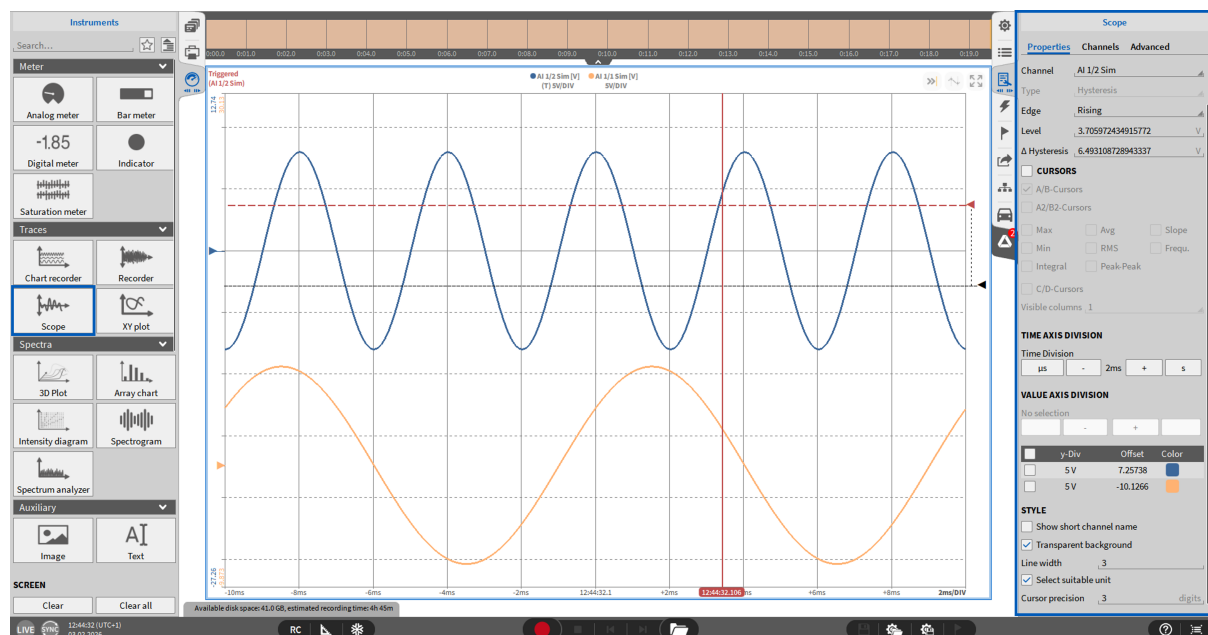
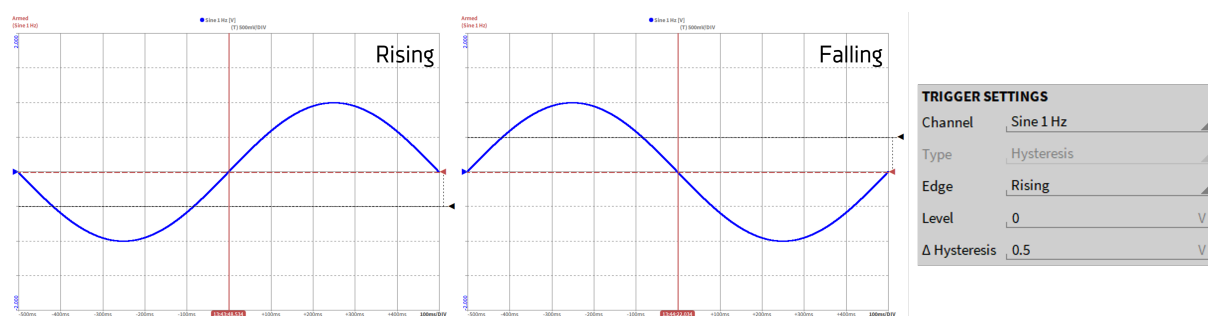

Fig. 8.38: Scope instrument – overview
Fig. 8.39: Trigger on a *Rising* (left) and on a *Falling* (right) edge
- In the *Edge* selection, the user can select if the selected signal shall be triggered on a *Rising* or on a *Falling* edge. The difference between the two modes is shown in Fig. 8.39 for a 1 Hz sine wave that has an amplitude of 1.
- In the *Level* selection, the user can define the level of the trigger. The level can also be set with the *Level* cursor (see Fig. 8.38) and must be within the signal range. Fig. 8.39 shows a 1 Hz sine
In the Δ *Hysteresis* selection, the user can define a level the signal must pass before a new trigger event occurs. Setting a hysteresis level avoids unwanted trigger events that may occur caused by noise around the trigger level. The Δ *Hysteresis* level can also be set with the *Hysteresis* cursor (see Fig. 8.38).
- The Offset Cursors (see Fig. 8.38) can be used to displace the displayed signals vertically. Using this function will not affect the phase accuracy.